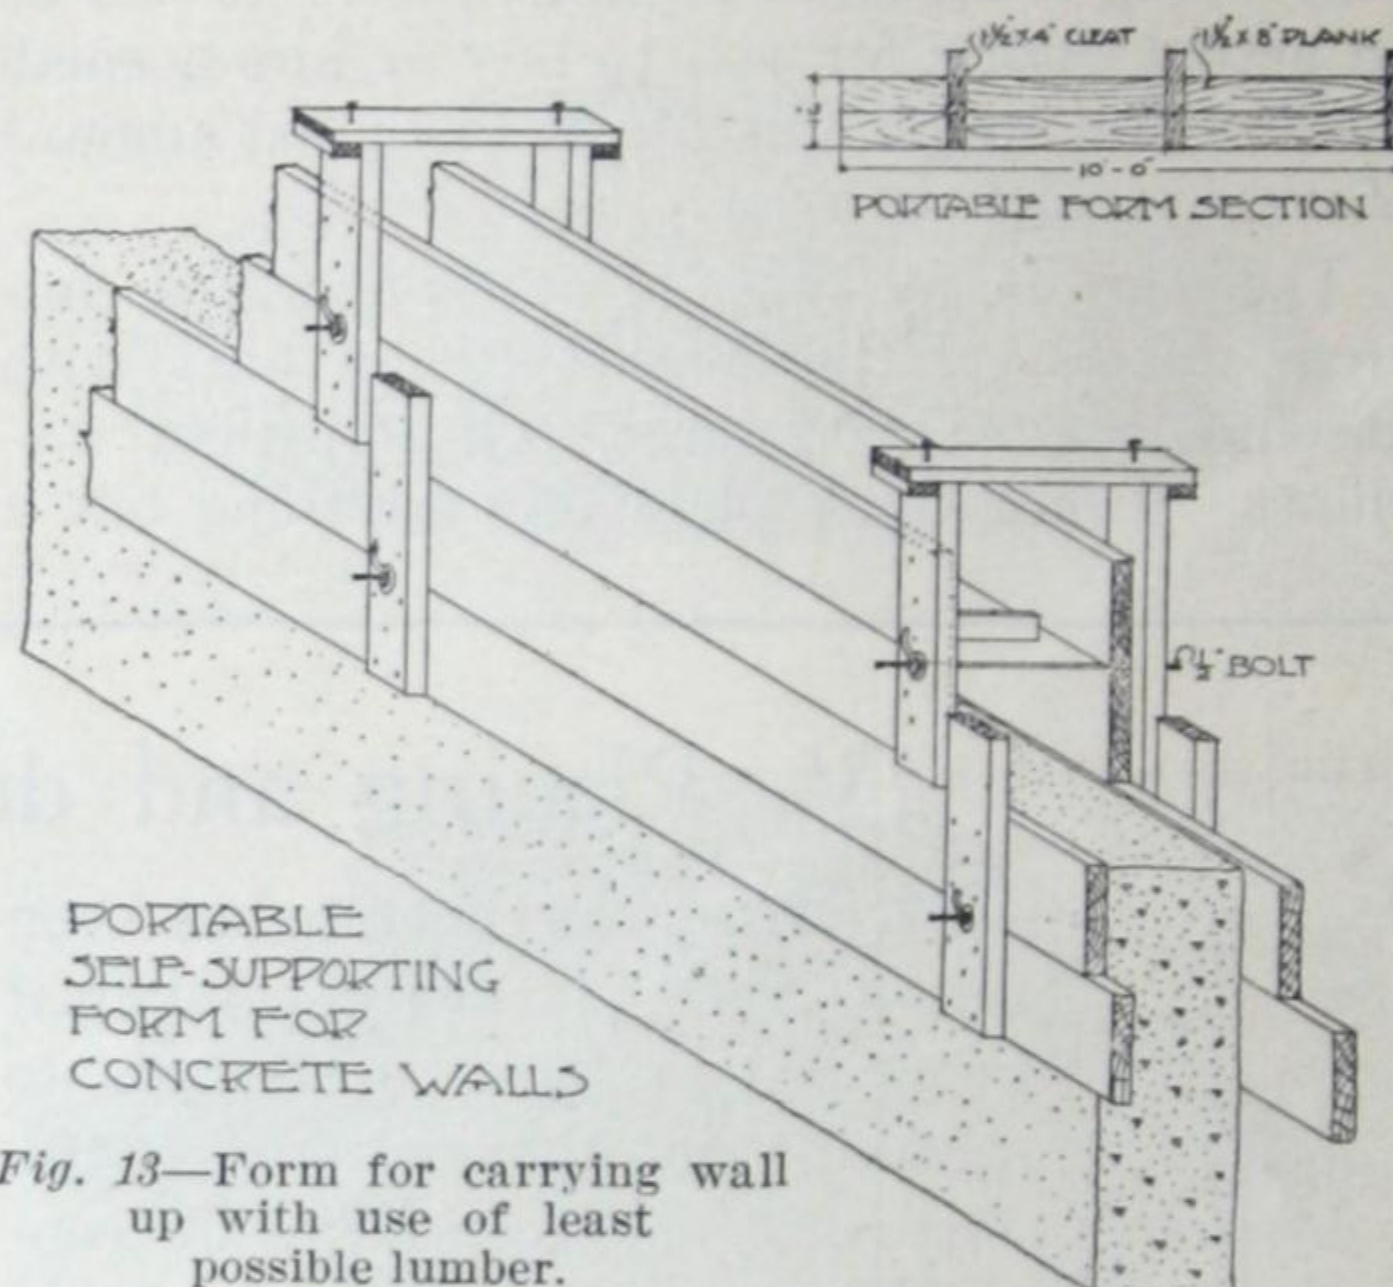

Fig. 13—Form for carrying wall up with use of least possible lumber.
69. Figure 13 shows forms for walls that can be used over again several times. Slotted uprights are made of boards 1 inch thick and 4 inches wide, separated by small blocks. Through these uprights, to hold the forms together, there are bolts, which must
be thoroughly greased so they can be removed easily from the concrete. The same type of form is used for walls built in successive layers. The method of operation is shown in Figure 13.